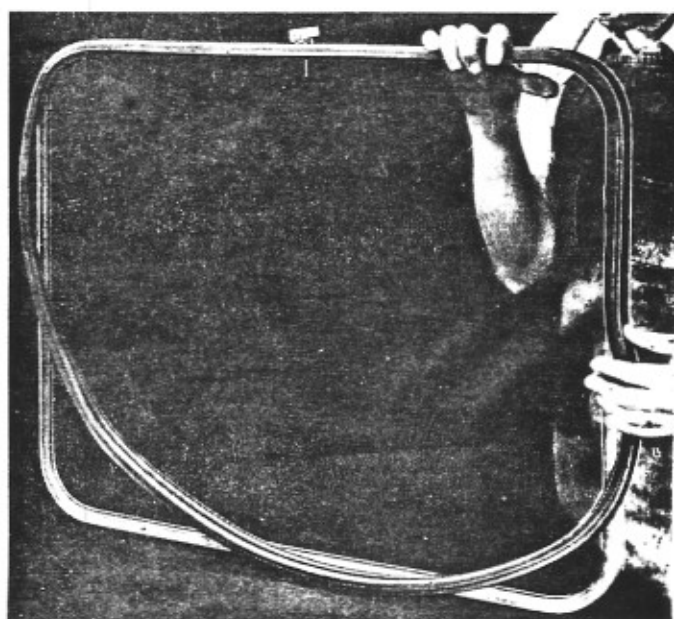

Figure 137
11. Apply rubber to glass, placing breather at point marked on glass. (See Figure 137) Caution: It is important that the replacement glass has the same dimensions (length, width & thickness) as the piece it replaces or a loose seal will result. Glass should be without sharp edges to avoid cutting rubber. Be sure the breather screw-cap will face toward the inside of the car. Start to apply at breather and work both ways across top, then down both sides, after which reverse position of glass and complete across bottom. Go over again to make sure rubber is all the way on.